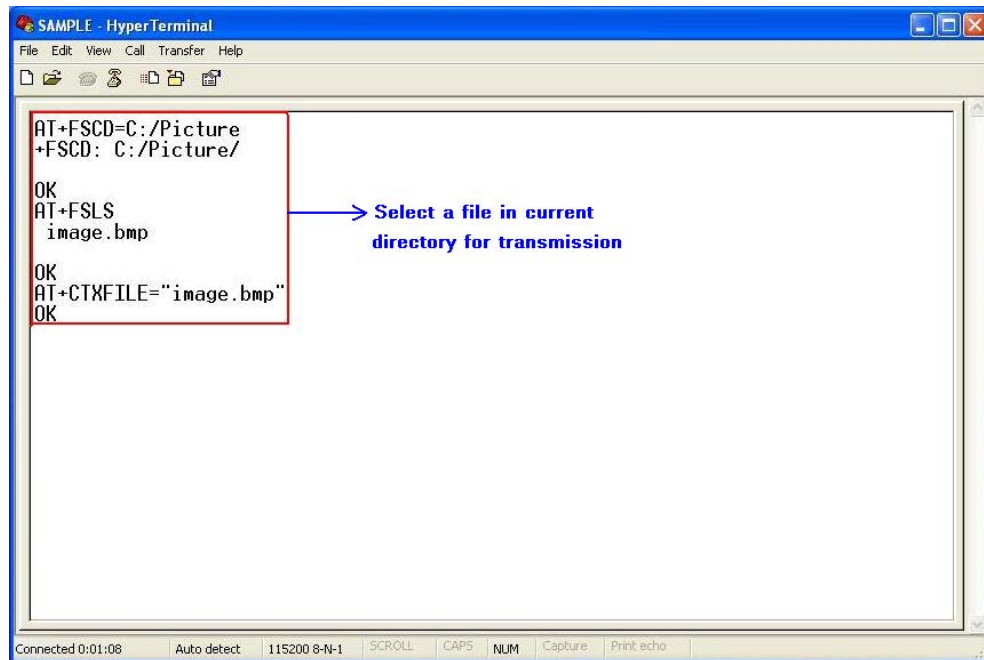

Figure 17-1 Select file for transmission
- ①. Select directory as current directory by AT+FSCD, and then select file with parameter <dir_type> of AT+CTXFILE is 0 or omitted. [Figure 17-1]